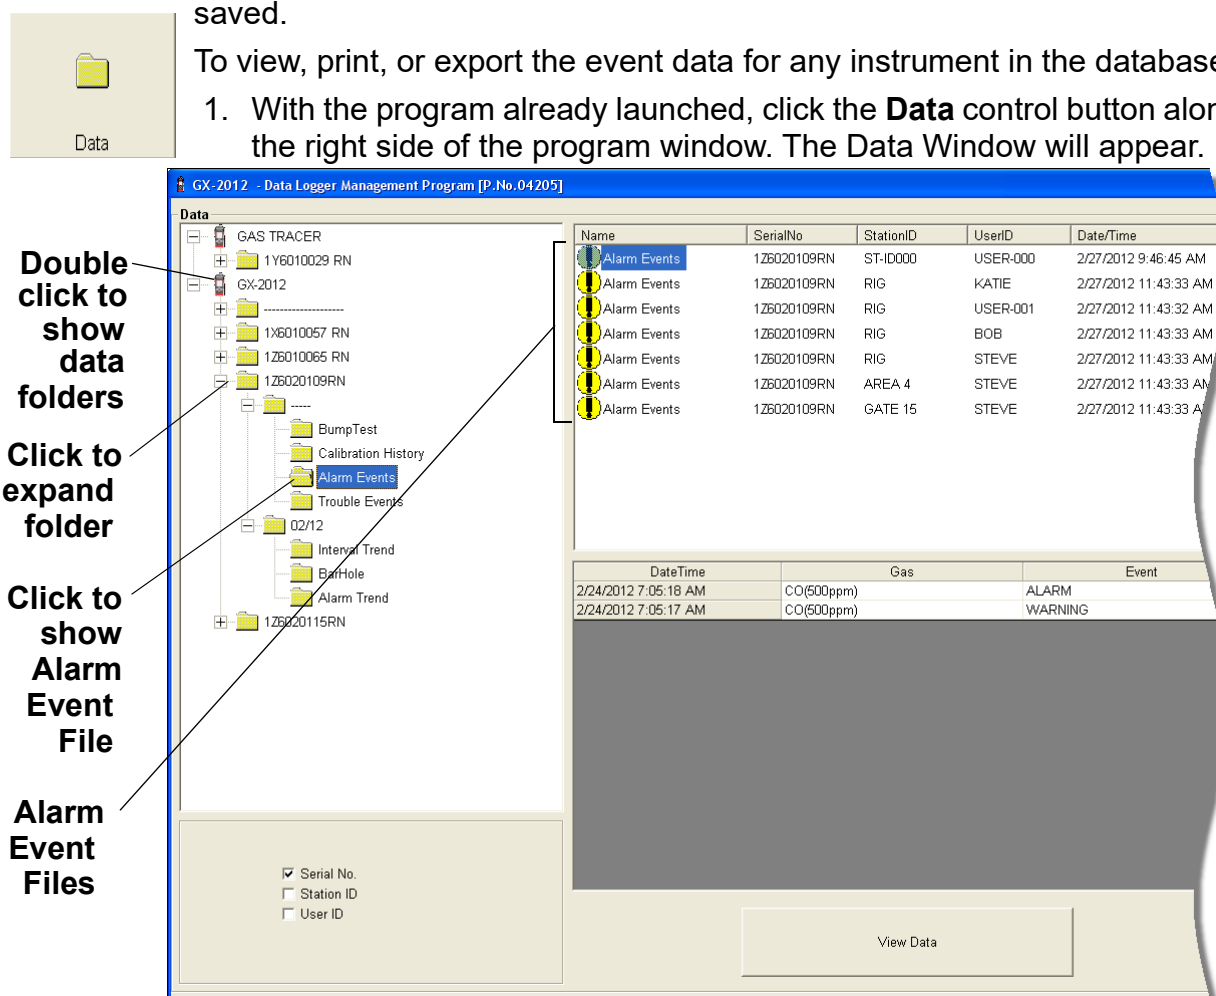

Figure 27: Data Window - Selecting Event Data Files
5. Click the Alarm Events or Trouble Events folder. One or more alarm or trouble event files will appear in the top right frame. An Alarm Events Folder has been opened in the example in Figure 27. If multiple user IDs or Station IDs are used for an instrument, then more than one event file will appear.
- If you click the **Summary** button, the Data Window will split into two frames one above the other with the event list in the lower frame and the summary information shown in the upper frame. The summary information is the same as the information shown in the upper right frame in Figure 27. To return to the one-frame format, click **Summary** again.